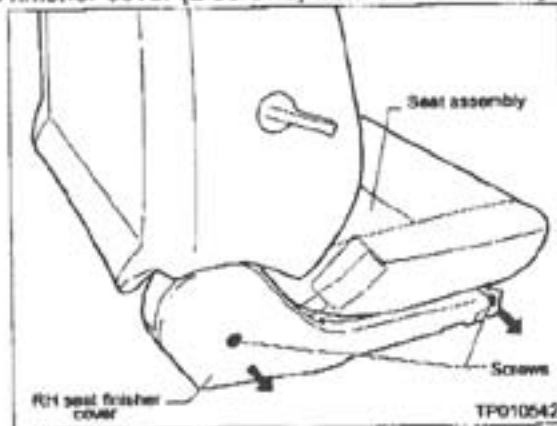

Figure 2
4. Remove the RH side finisher cover (2 screws) from seat assembly (see Figure 2).